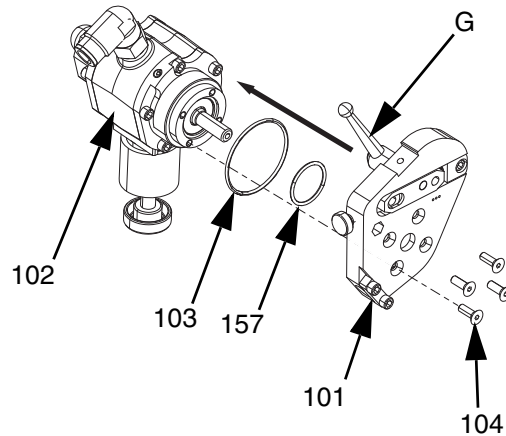

FIG. 23
Refer to **Figure 23** for the following steps.
NOTE: The anvil to blade tension lockdown handle (G) must be aligned with the groove in the air motor as shown in **Figure 23**.